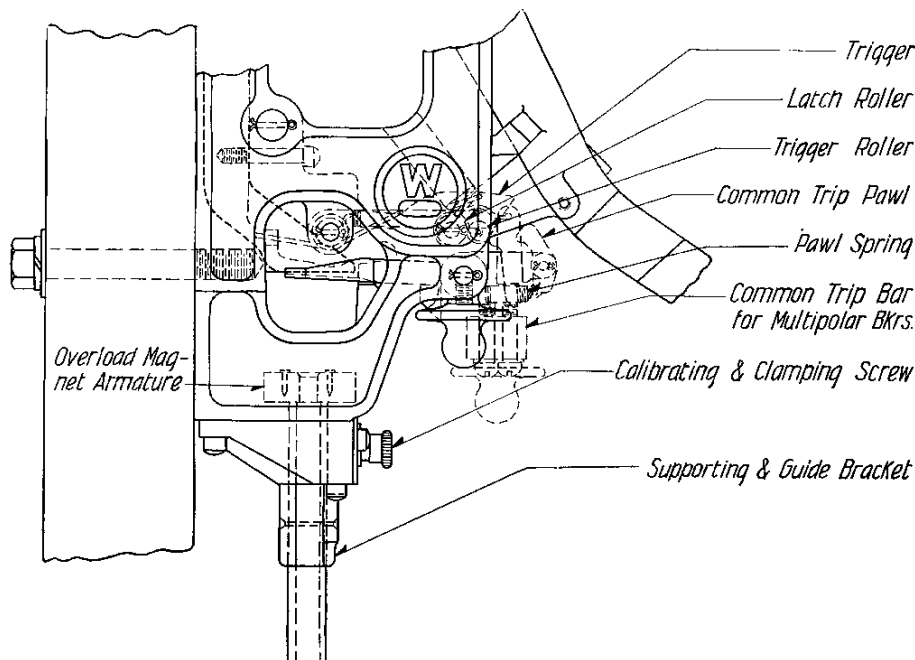

FIG. 7—INSTANTANEOUS TRIP ATTACHMENT
**Instantaneous Trip** (See Figure 7)—The instantaneous trip device is used to trip a circuit-breaker whenever the current in the circuit which the breaker protects exceeds a certain predetermined safe value. It consists of a coil in series with the line, the ampere turns of which act on a magnetic circuit consisting of a stationary portion and a movable iron armature. When the ampere turns of
the series coil are great enough or in other words when the current through the series coil reaches a certain value the magnet armature is attracted to the stationary portion and this movement serves to trip the breaker latch. The instantaneous trip device will trip the circuit-breaker on any overload above its setting. The amount of current required in the series coil of a given overload trip device to cause it to trip the breaker is necessarily dependent upon the air gap between the movable armature and the stationary magnet. Various tripping points can be obtained by varying this gap and it is by this means that all CL carbon circuit-breakers are calibrated for overload. The standard range of calibration is 100% to 200% of the normal current rating of the circuit-breaker. The five main points, 100%, 125%, 150%, 175%, 200% are stamped on a suitable scale plate. The means of adjusting the air gap are shown in Figure 7. Of the total travel of the overload magnet armature, that part used to move the breaker trigger, should be just enough to trip the trigger free of the latch lever. When so adjusted the maximum amount of the armature travel is being used to obtain momentum for tripping the breaker and the magnet is being used at its best efficiency. This applies to any automatic tripping device.